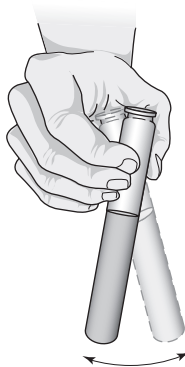
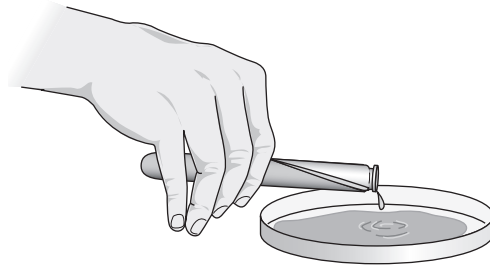

FIG. 2.10.
FIG. 2.11.
- a. Mix the melted agar/bacteria mix by gently shaking (Fig. 2.10) or tapping the tube or rolling the tube in the palm of your hand, then pour the mixture into the Petri dish (Fig. 2.11), or